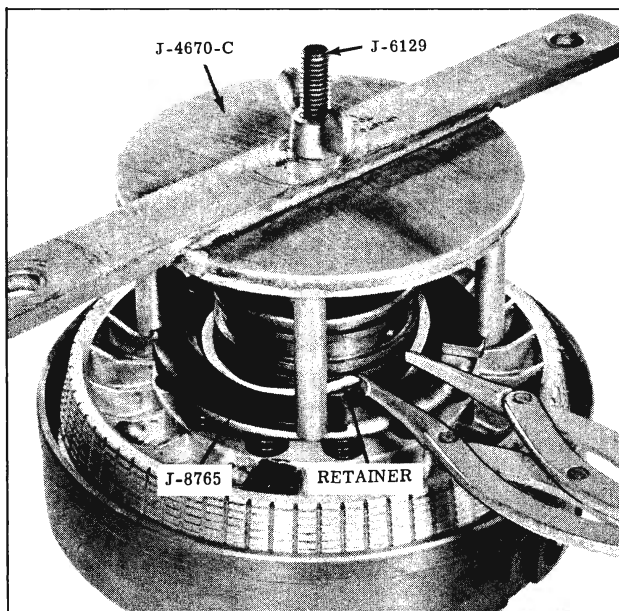

Fig. 3-59 Removing Reverse Release Spring Retainer
2. Using Tools J-8765, J-6129, and J-4670-C, remove reverse release spring retainer snap ring. (Fig. 3-59)
11. Using Tools J-8765, J-6129 and J-4670-C, compress release springs. (Fig. 3-59)